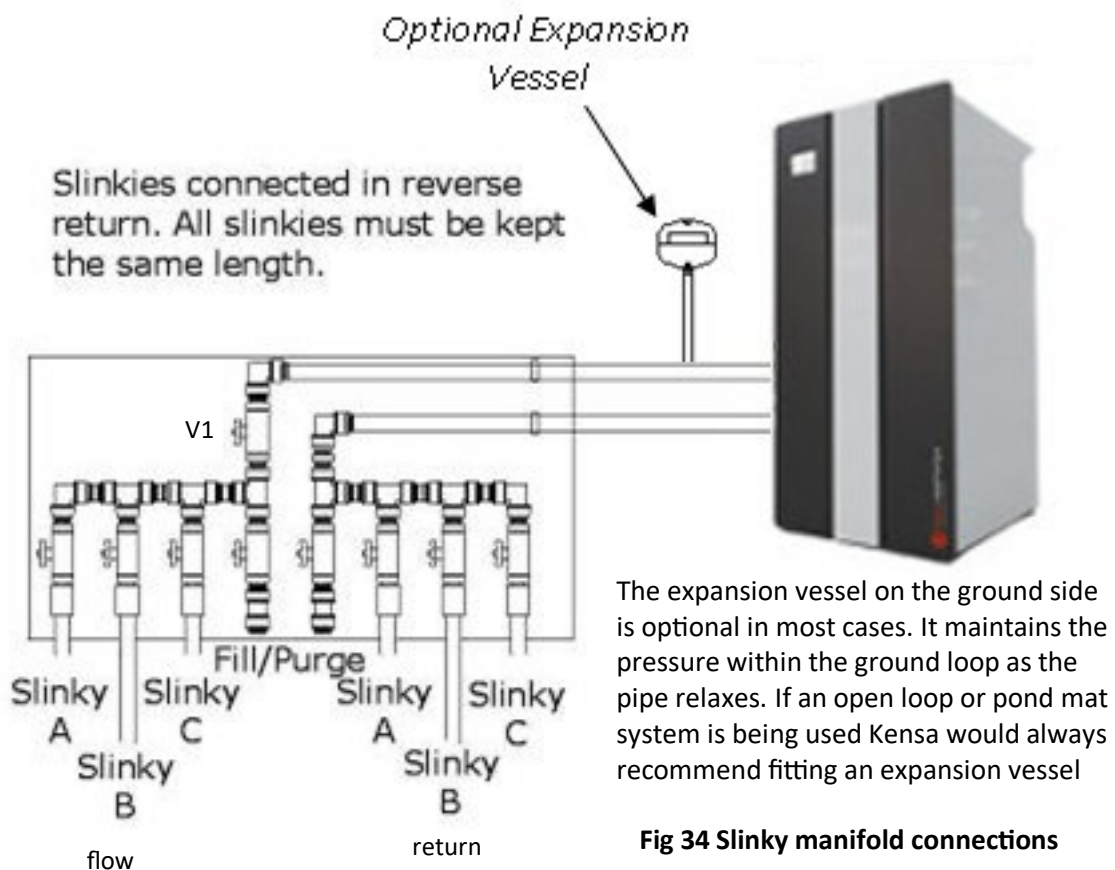

Fig 34 Slinky manifold connections
- iii. Place a filter such as a kitchen sieve over the pipe returning water to the dustbin so any debris will be captured. Ensure all valves are closed including the heat pump valve V1. Open the valves on the manifold in the following order (refer to above diagram Fig 34) :-